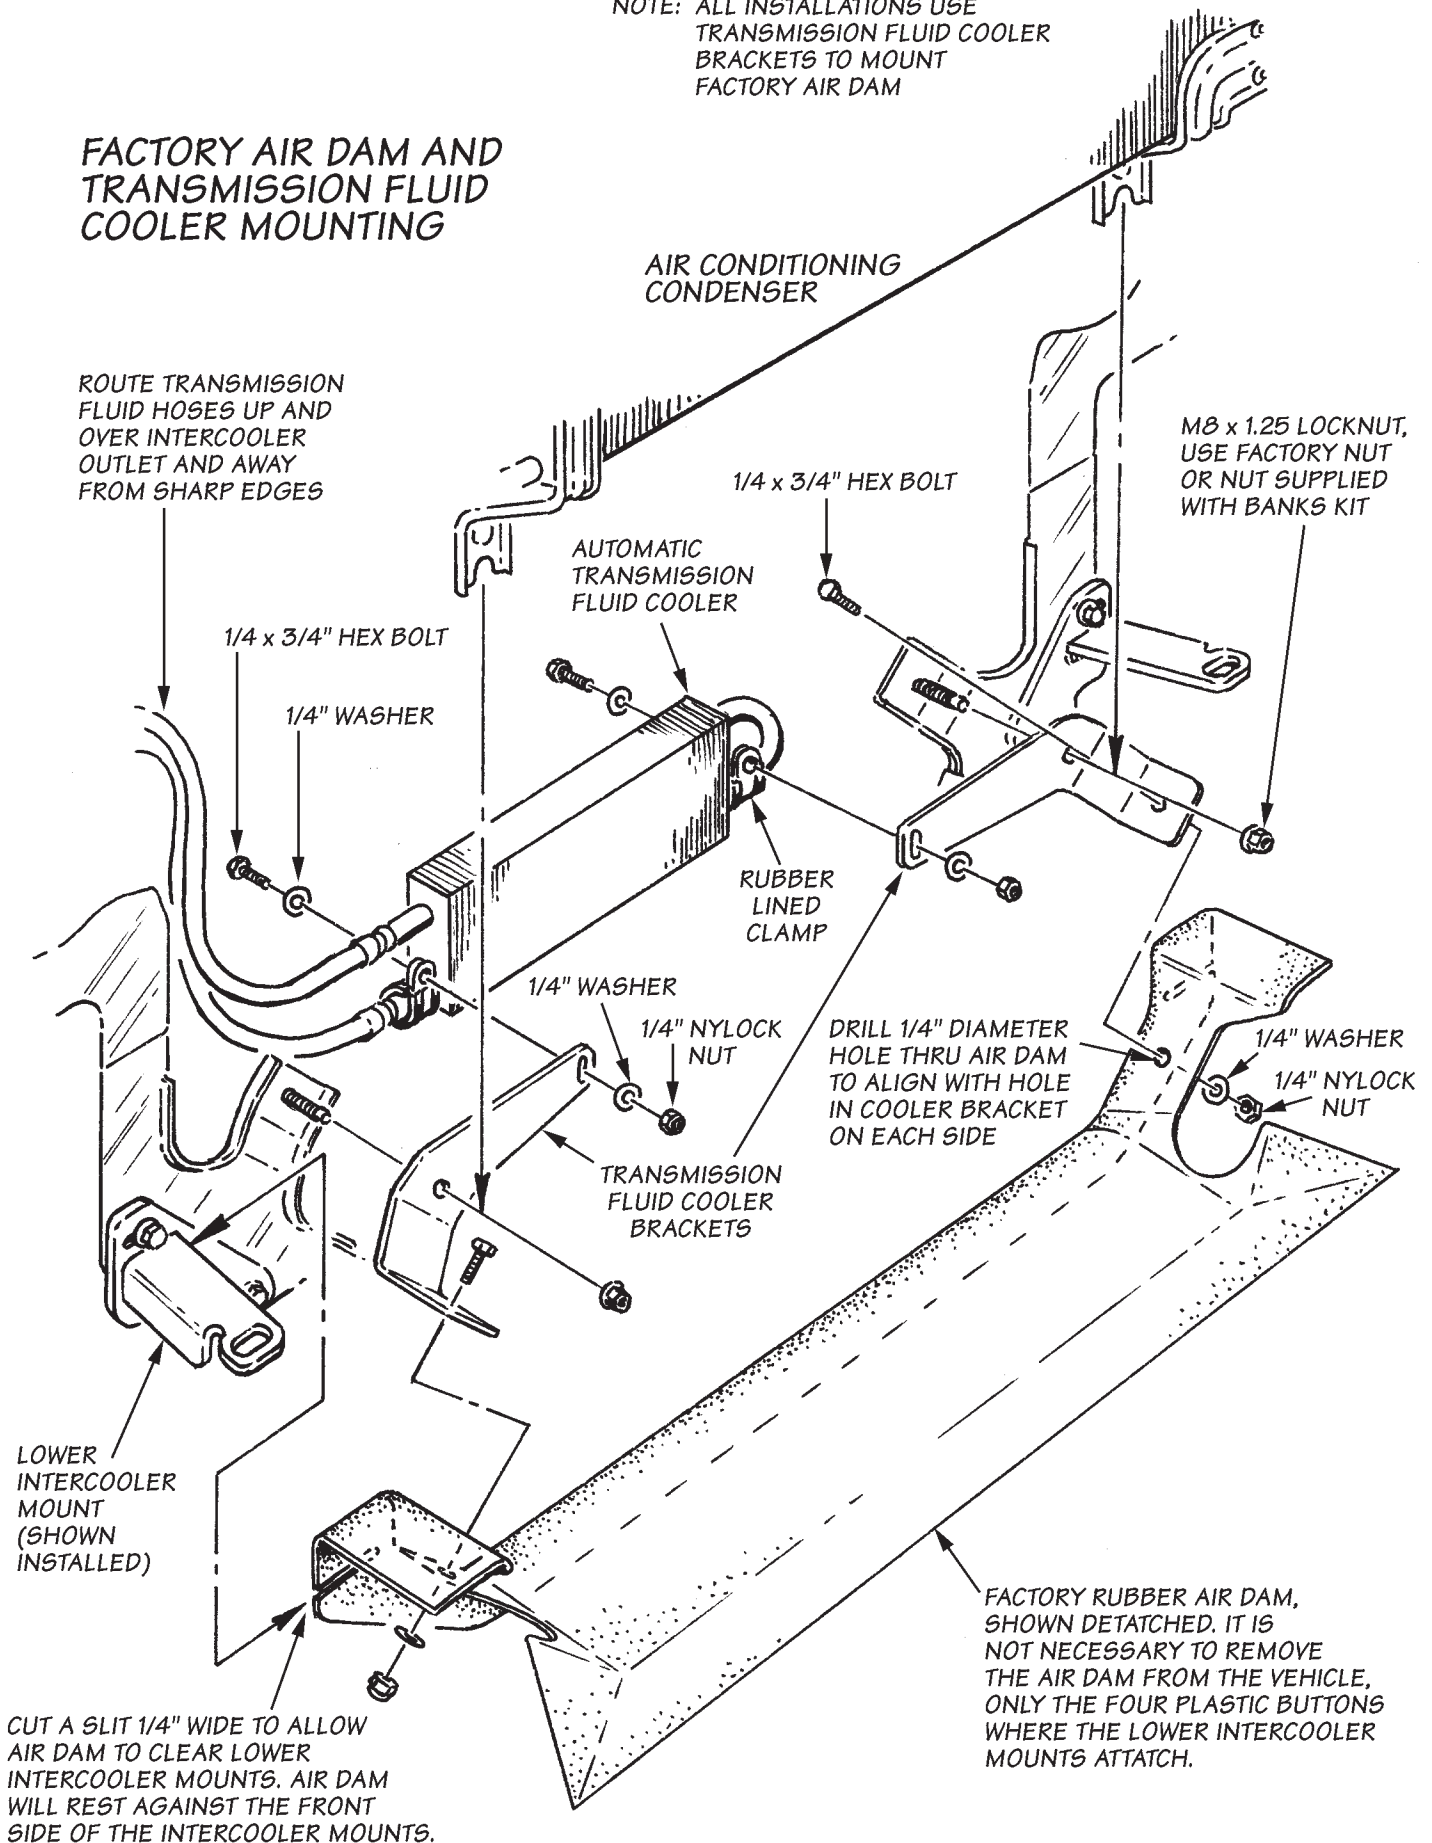

FIGURE 10
44. On vehicles with a front sway-bar crossing under and just ahead of the radiator area, unbolt the two sway-bar bushings from the bottom of the frame rails. Reinstall the bar and bushings using the 2-inch square spacers, four $\frac{3}{8}$ x $3\frac{1}{2}$ -inch hex bolts, washers, and Nylock nuts provided. **See Figure 10**.